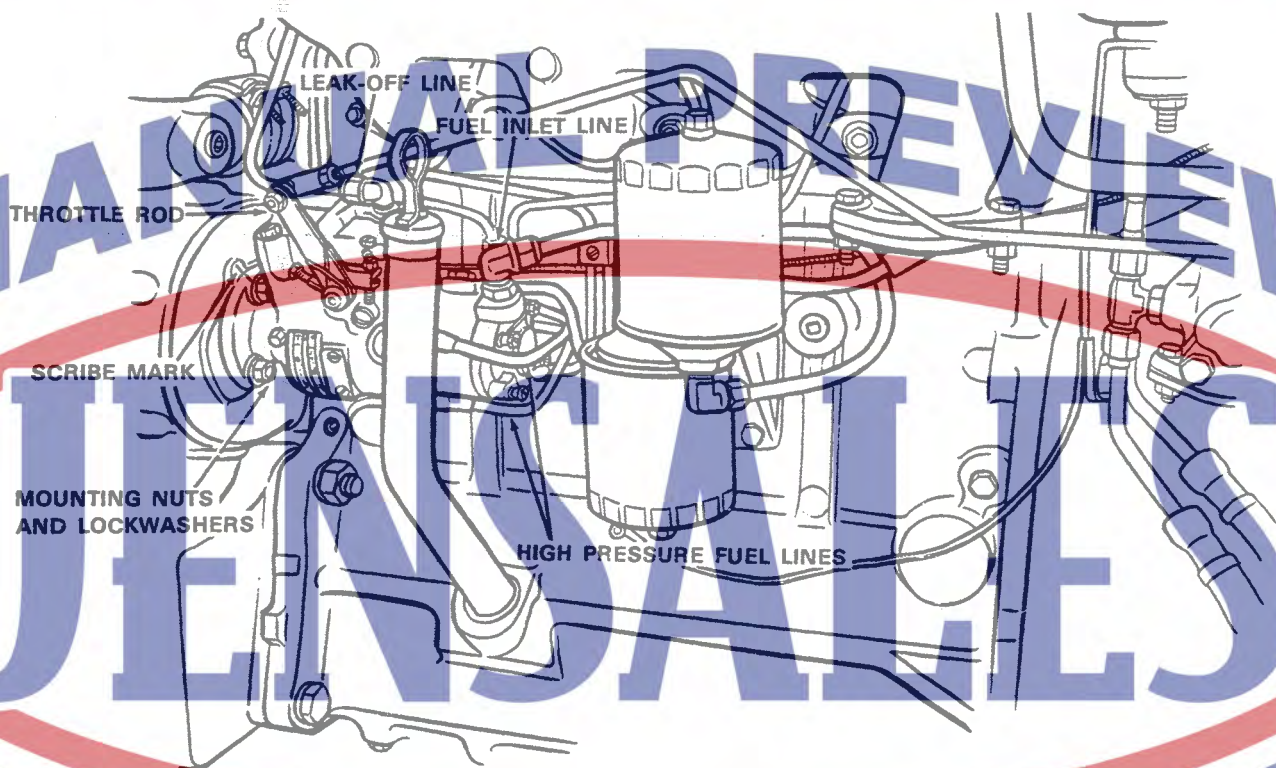

Figure 2
3. Remove high pressure fuel lines, fuel inlet line at pump and leak-off line, Figure 2.